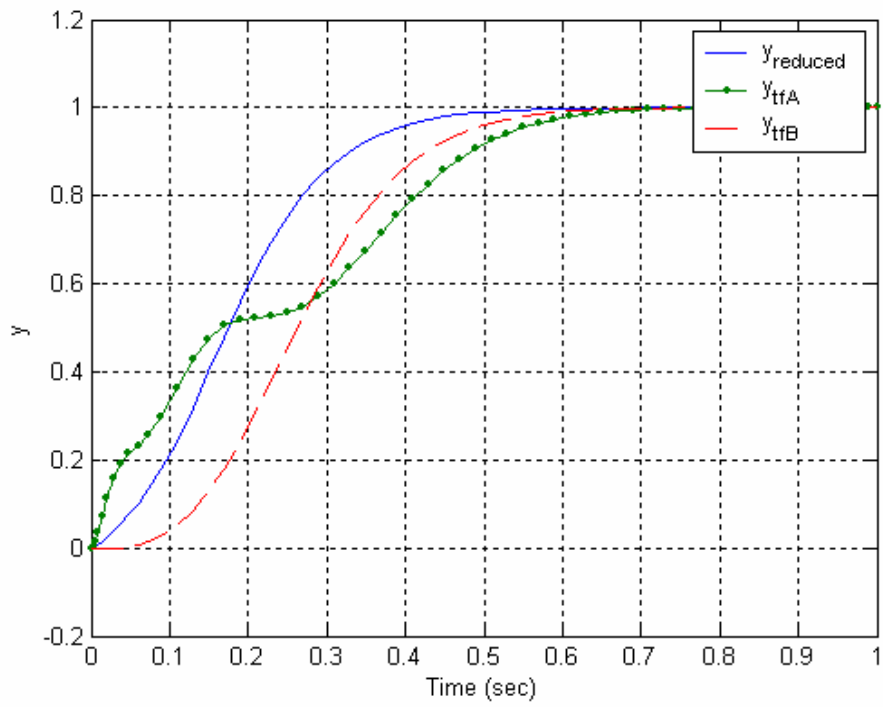

Figure 7. Results for 2e.
e) Copy your observer/controller from part (a) to new files (Copy both the Matlab and Simulink files.). In addition to this state space based model, implement an minimum order observer/controller transfer function as suggested on page 932 of the text (See example A-12-14. In this example K_a is the part of K multiplying the known states and K_b is the part of K multiplying the estimated states.) for both types of configurations (controller in the feedforward path and controller in the feedback path.) Assume we have available the position of the first cart and want to control the position of the first cart. Assume for all systems that the closed loop state feedback poles are at $\mathbf{p} = [-15 \ -20 \ -25 \ -30]$ and the observer poles are at $[-15 \ -20 \ -25]$. Assume all initial states are zero. Note that you do not need to write your model of the plant as a transfer function (you can leave it as a state space model), though the observer/controller transfer function should be written as a transfer function. Be sure to include the proper prefilter. You should get results like those displayed in Figure 7. Turn in your plot and Matlab/Simulink code.